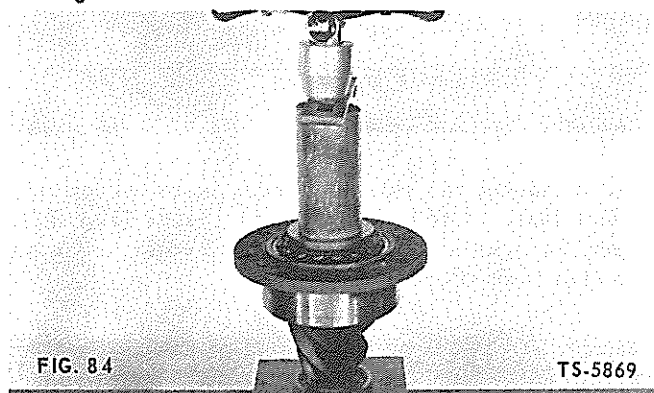

FIG. 84
6. Position pinion bearing cage assembly on pinion shaft. Position outer pinion bearing cone on pinion shaft and press into place, using steel tubing for driver (Fig. 84). Driver dimensions are given in Fig. 85.